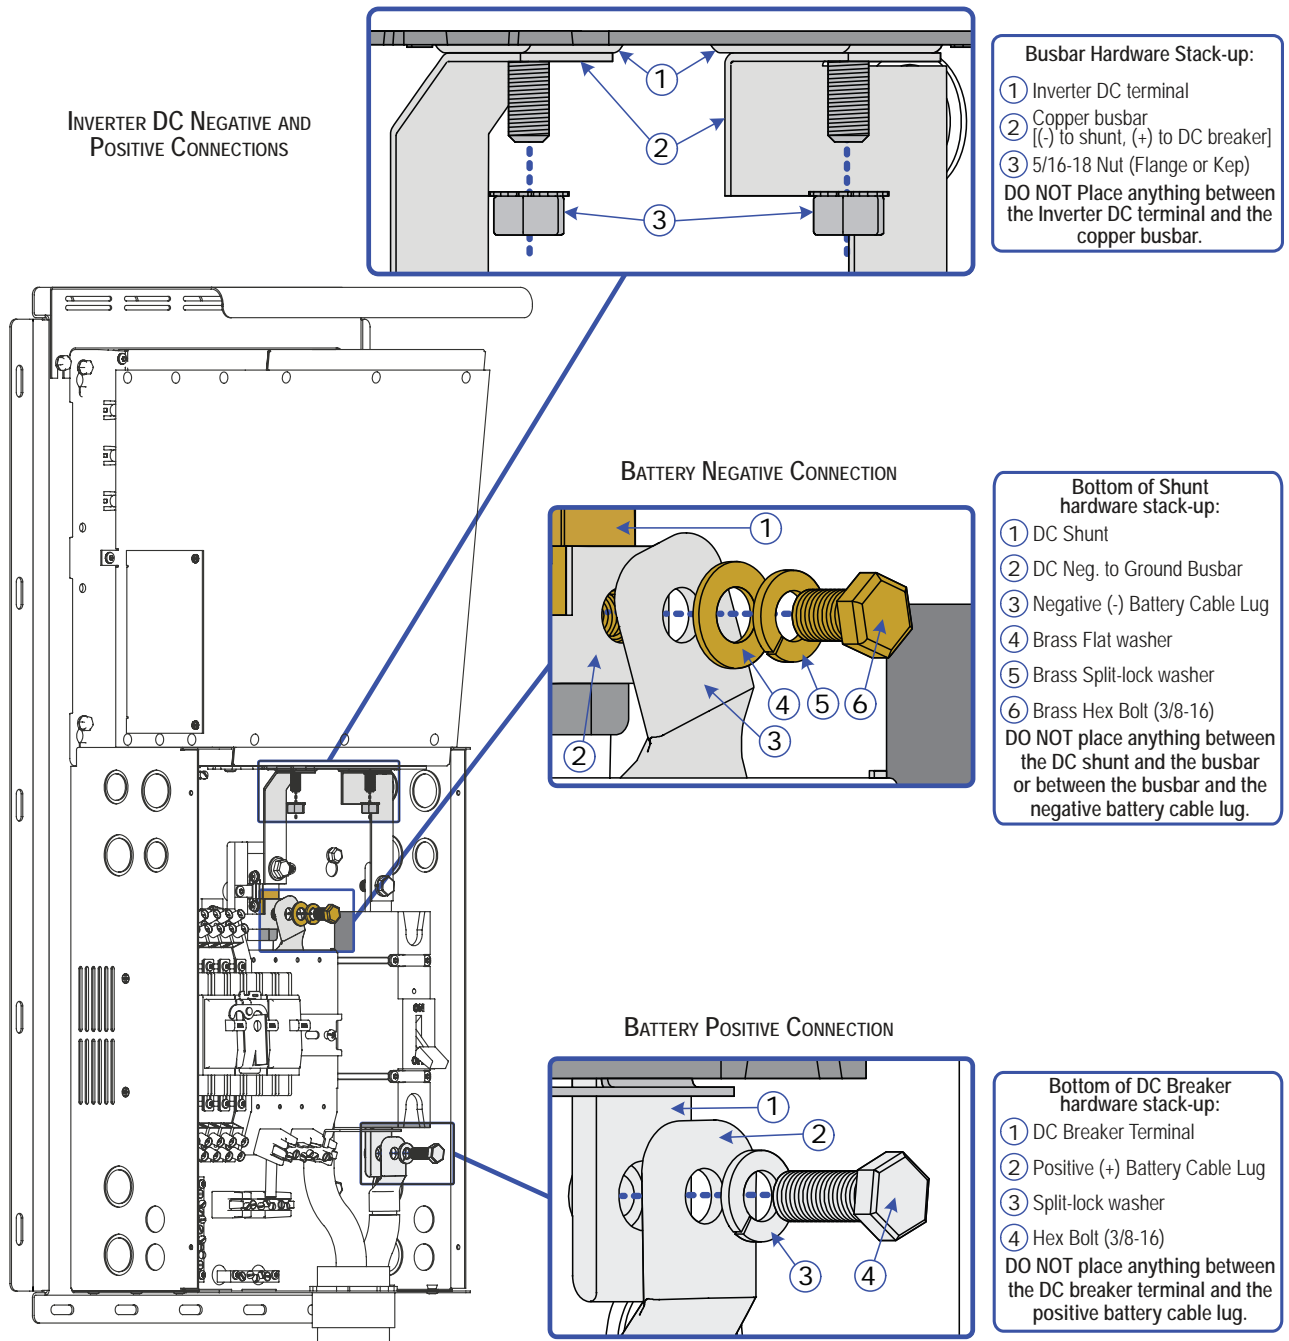
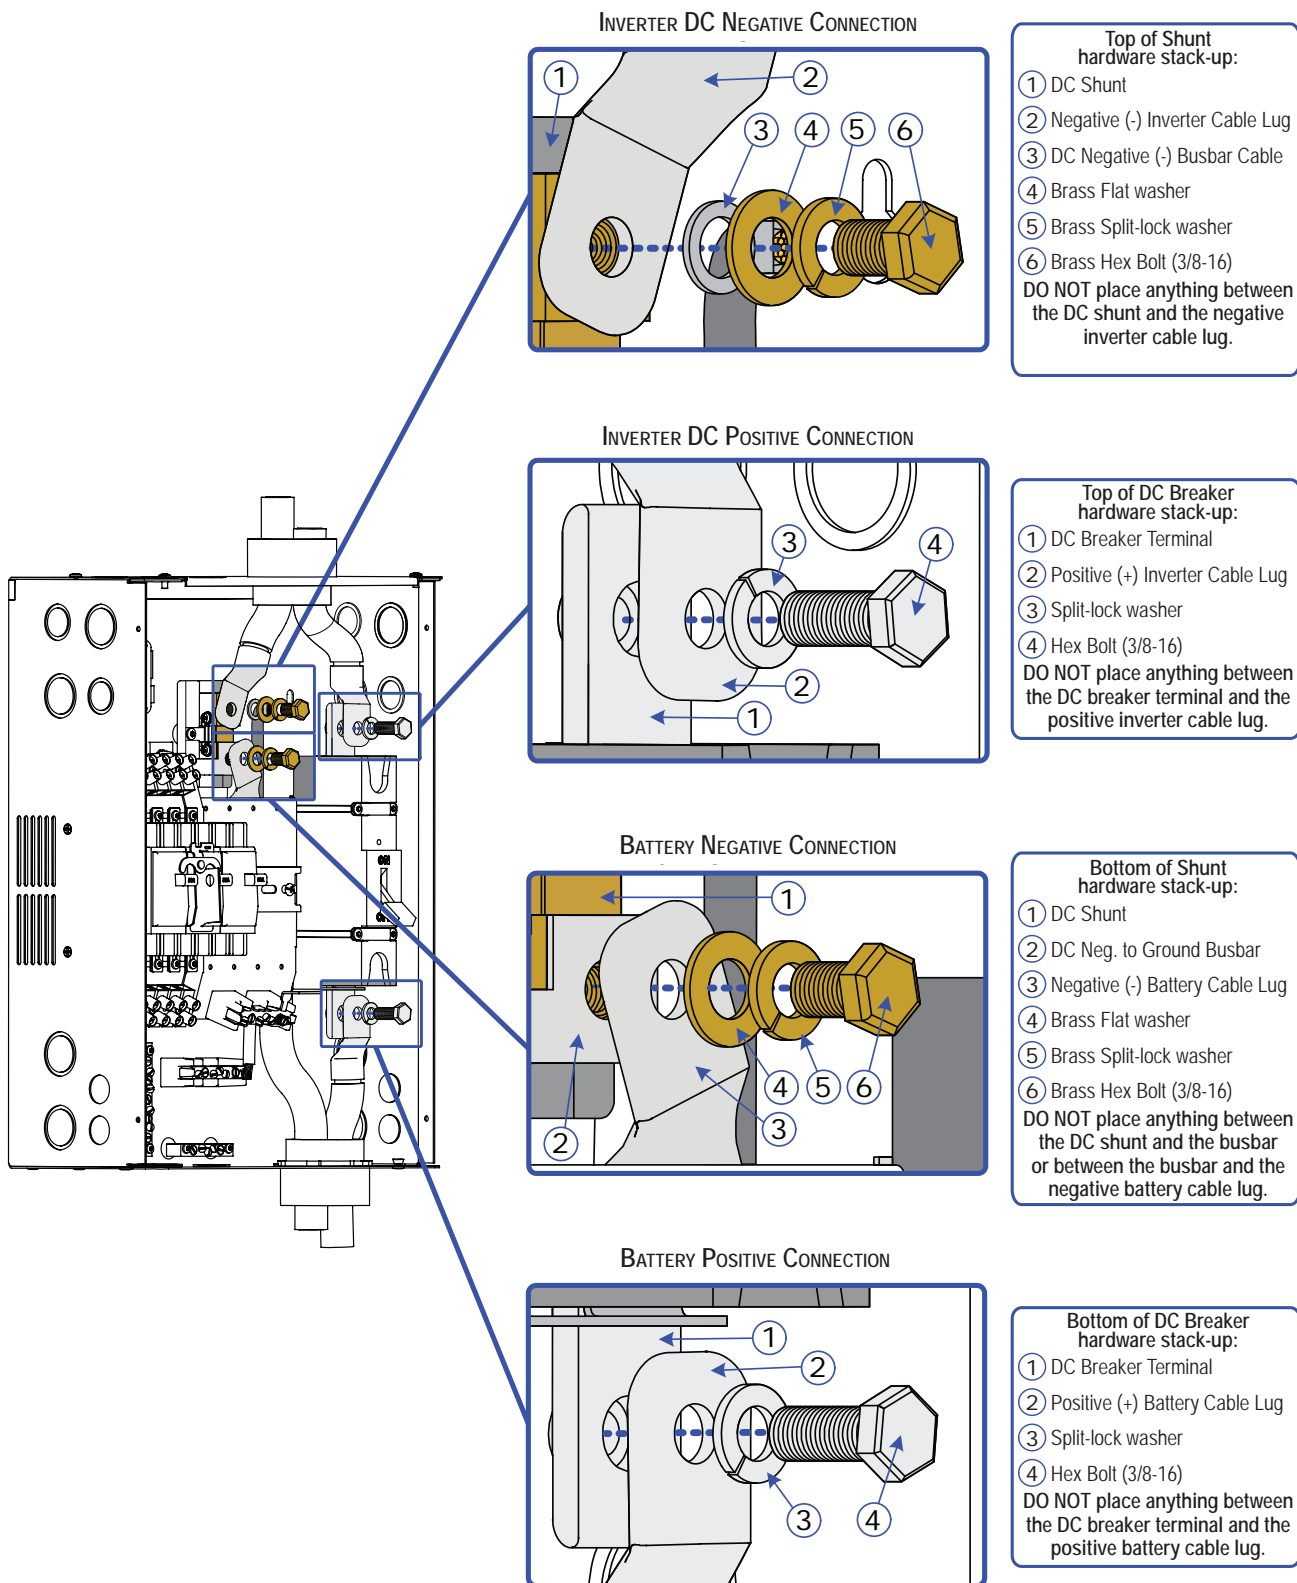

Figure 3-10, DC Connections - with Magnum Inverter Installed
Figure 3-11, DC Connections - without Magnum Inverter Installed
The DC wiring for the MMP enclosure is further detailed in Figure 3-10 for systems using a Magnum Energy inverter, and in Figure 3-11 for systems not using a Magnum inverter. These detailed diagrams should be reviewed to assist in wiring the DC circuits, however, they are not intended to override or restrict any national or local electrical codes. These drawings should not be the determining factor as to whether the installation is compliant, that is the responsibility of the electrician and the onsite inspector.
Follow Figures 3-10 and 3-11 on how to connect the DC cables and stack the hardware correctly.
3. Ensure the DC wire connections (on the batteries, inverter, DC circuit breaker and DC shunt) are flush on the surface of the DC terminals and the hardware used to hold these connections are stacked correctly (see Figures 3-11 and 3-12); and then securely tighten these DC connections. Only after the entire installation is complete and all connections are verified, should the DC circuit breaker be closed to provide power to the inverter.